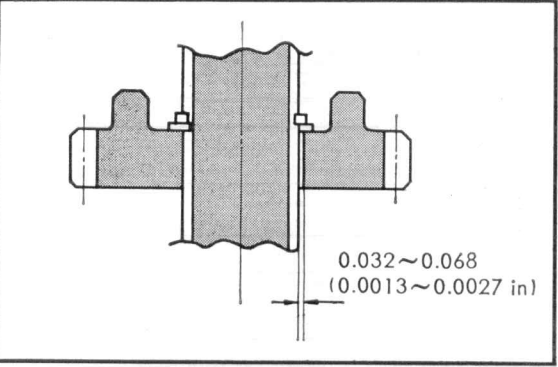

Figure 3-84. Clearance between counter shaft and counter shaft third gear
- (8) Clearance between countershaft and countershaft third gear (Fig. 3-84)